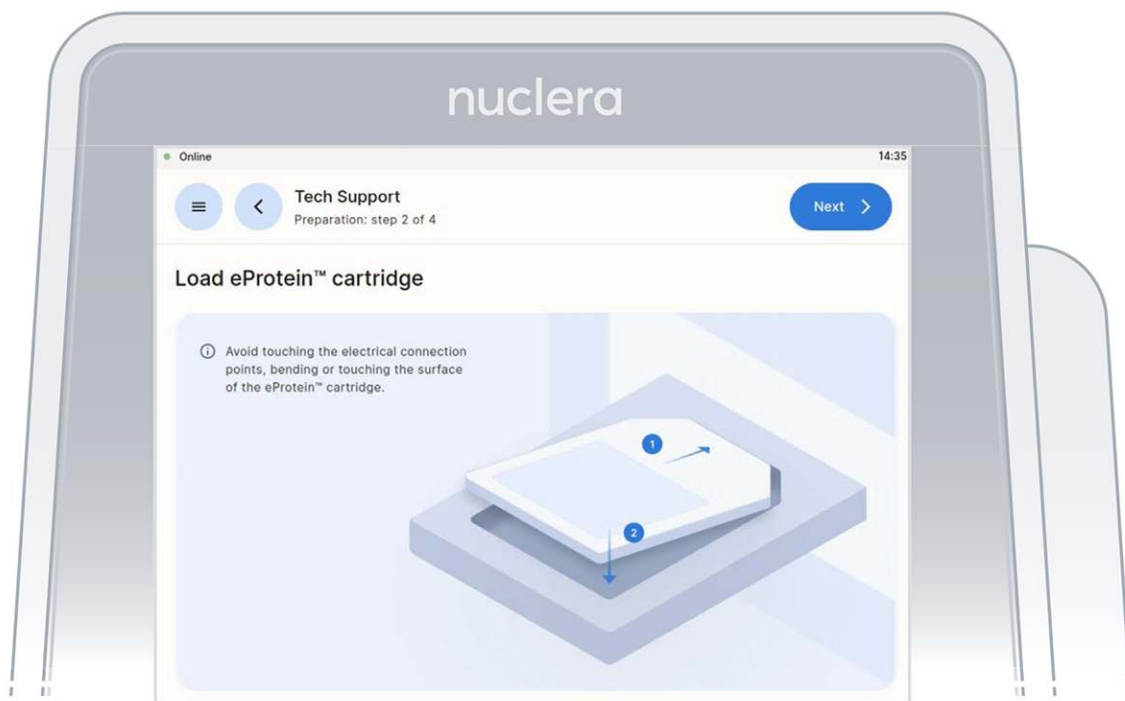

Figure 10: Checklist screen before the experiment starts.
7. Unpack and load a cartridge as shown on the screen of the eProtein Discovery instrument, place the cover on the cartridge, avoid touching the electrical connectors, and press the **[Next]** button (Figure 10).